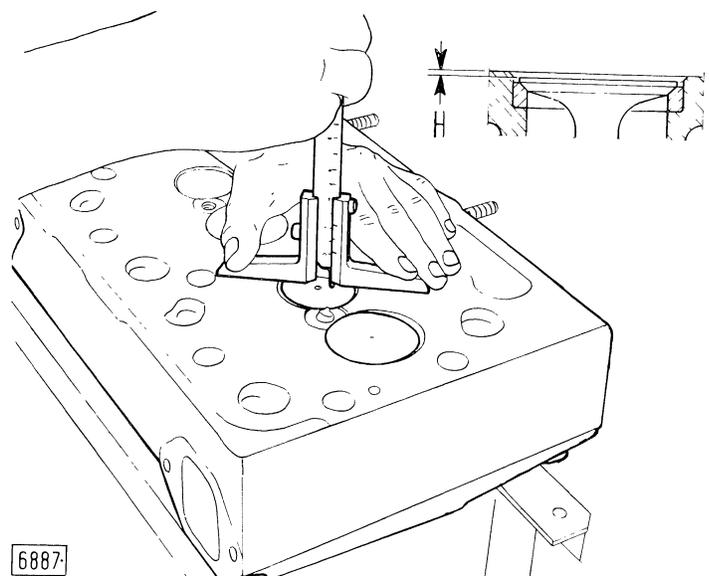

Fig. 13 - Checking Valve Depth in Cylinder Head
— Valve depth (H) is as shown in Fig. 13.